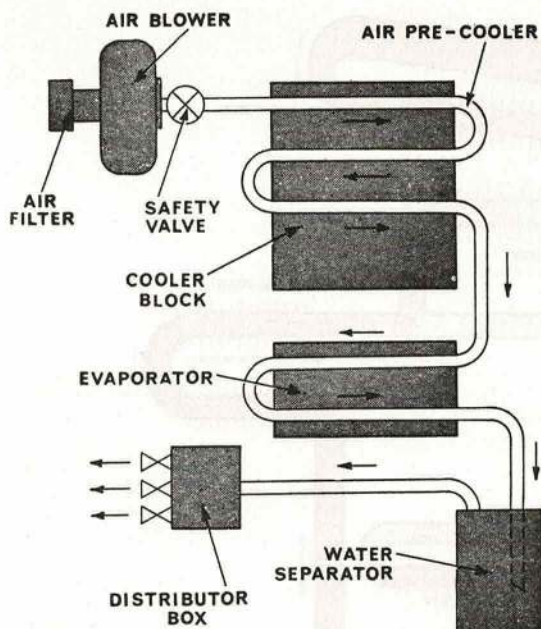

Fig. 16. AIR CIRCUIT
68. The path followed by the air is illustrated at Fig. 16. Air from the atmosphere passes through the air cleaner to the air blower where it is compressed. It then passes through the body of the safety valve and then via flexible tubing to the heat exchanger (pre-cooler) in the cooler block.